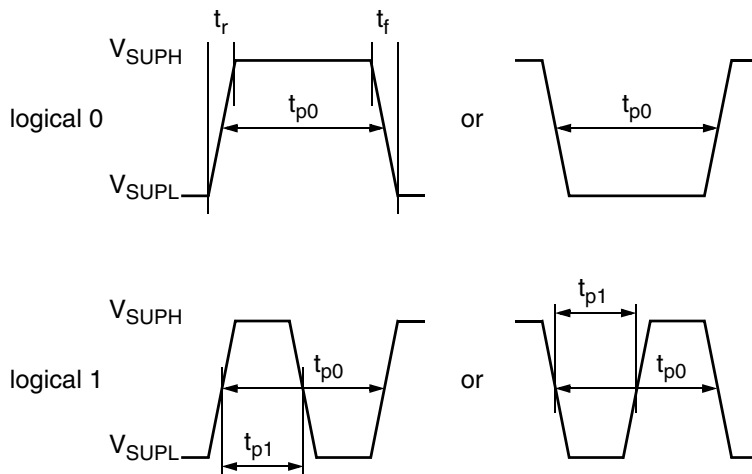

Fig. 6–1: Definition of logical 0 and 1 bit
- Read a register (see Fig. 6–3)
- Programming the EEPROM cells (see Fig. 6–4)
- Activate a sensor (see Fig. 6–4)